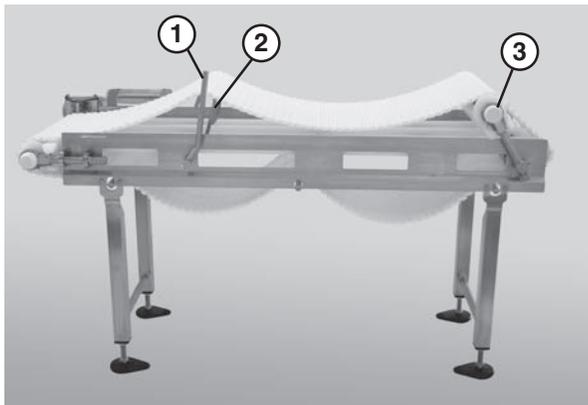

**Figure 44**
3. Lift up on the belt (**Figure 44**).